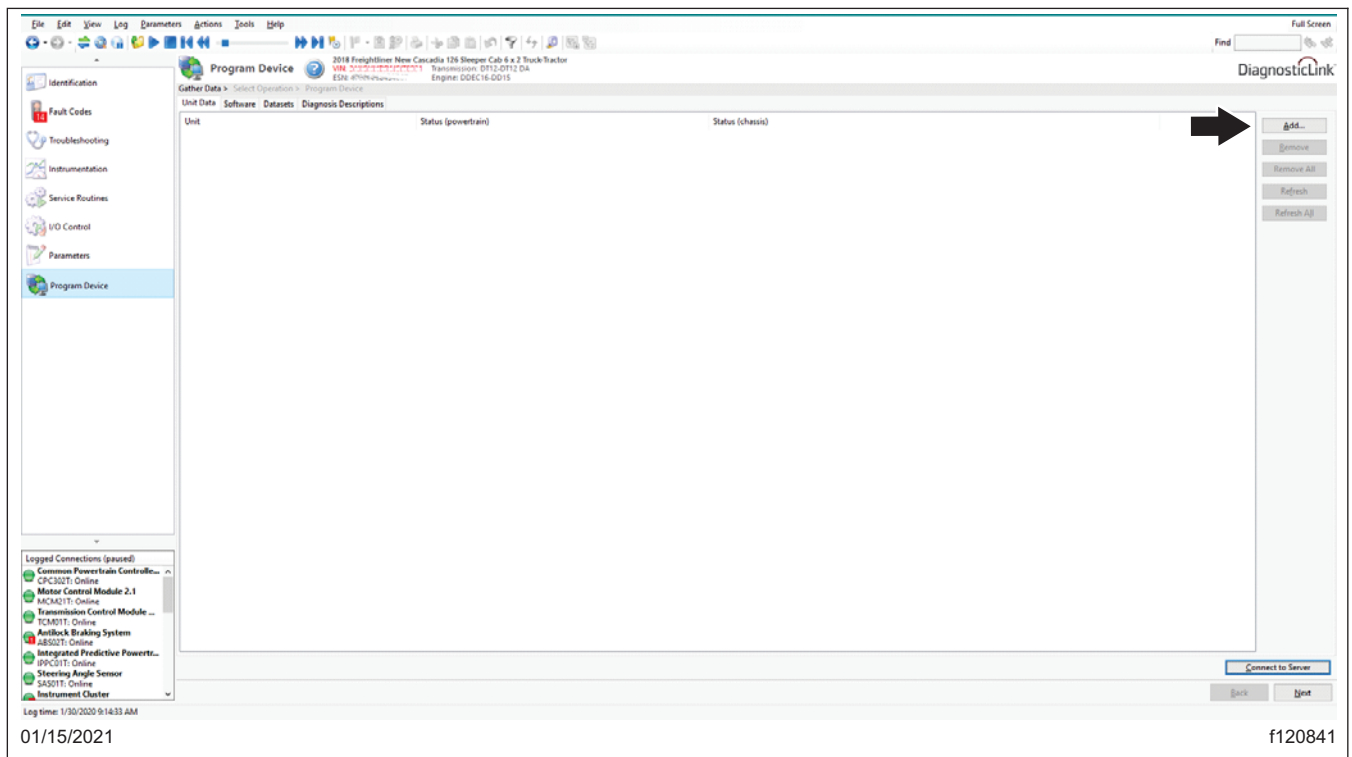

Fig. 5, Adding the VIN to Download Updated Server Data
- Select 'Add' to add a download request for the vehicle by entering the vehicle identification number (VIN). See Fig.5.